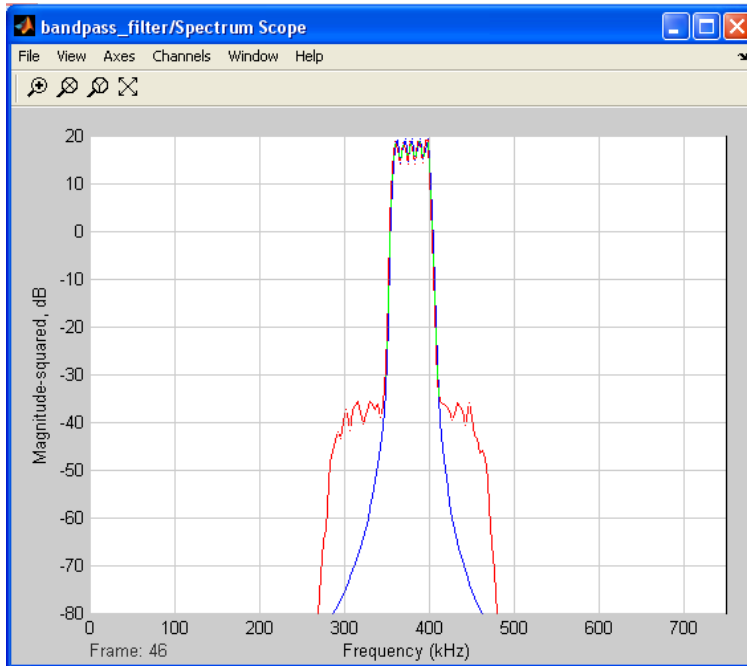
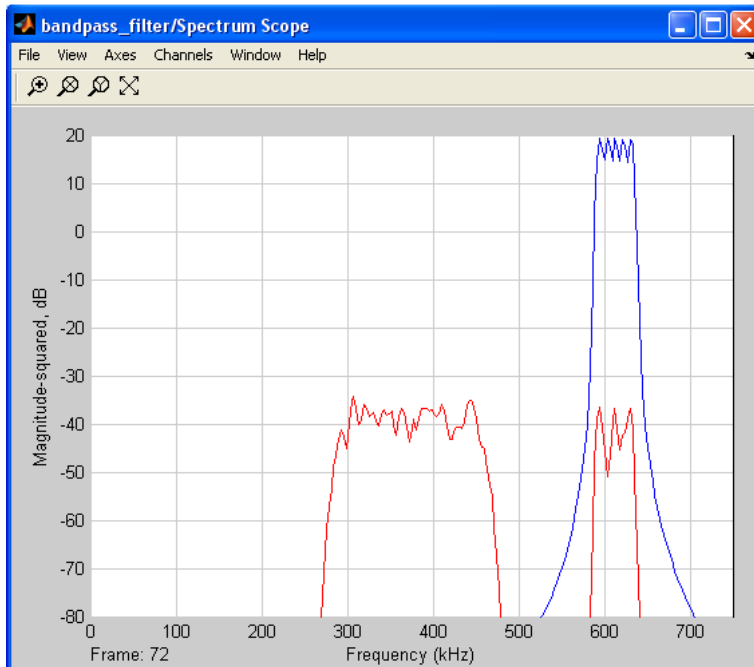

Figure 6. Attenuation in Passband (Spectrum Scope).
Figure 7. Attenuation in Stopband (Spectrum Scope).
- 2-1-6. Bring the scope to the front and verify that the signal coming out of the FIR filter has been attenuated and they look like **Figure 6** and **Figure 7**, below.